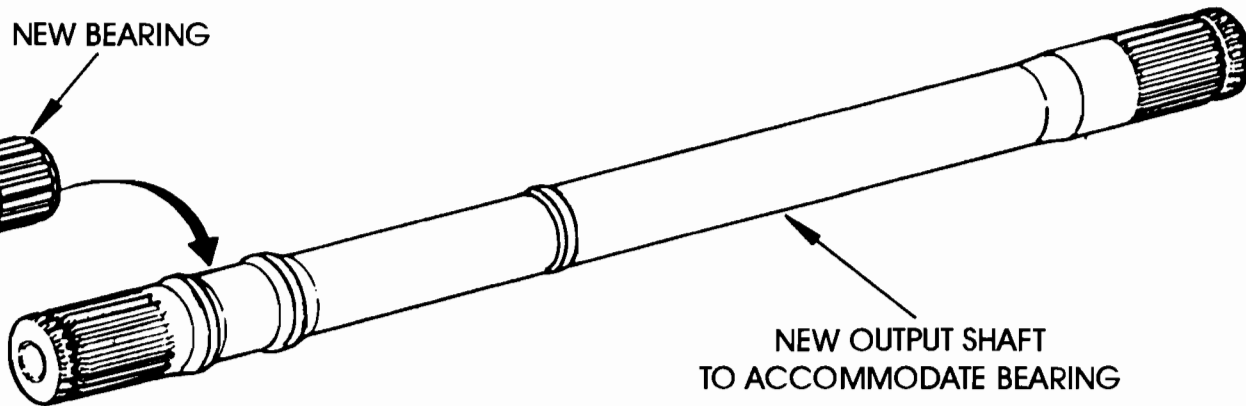

Figure 14
- (3) **OUTPUT SHAFT** - Approximately 1/4" longer to accommodate the thicker and larger side gears. There is also a new bearing added to support the 4th clutch hub (See Figure 14).
- (4) **4TH CLUTCH HUB AND SHAFT** - The previous needle bearing inside the 4th clutch hub has been eliminated, and a hardened sleeve added to the inside diameter to accommodate the new design bearing on the output shaft (See Figure 14).